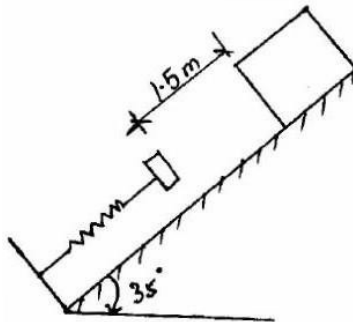

Figure 5: 6B
6. (a) A block of mass 50 kg slides down a 35° incline and strikes a spring 1.5 m away from it as shown in **fig 5**. The maximum compression of the spring is 300 mm when the block comes to rest. If the spring constant is 1 kN/m , Solve the coefficient of kinetic friction between the block and the plane. [7m]